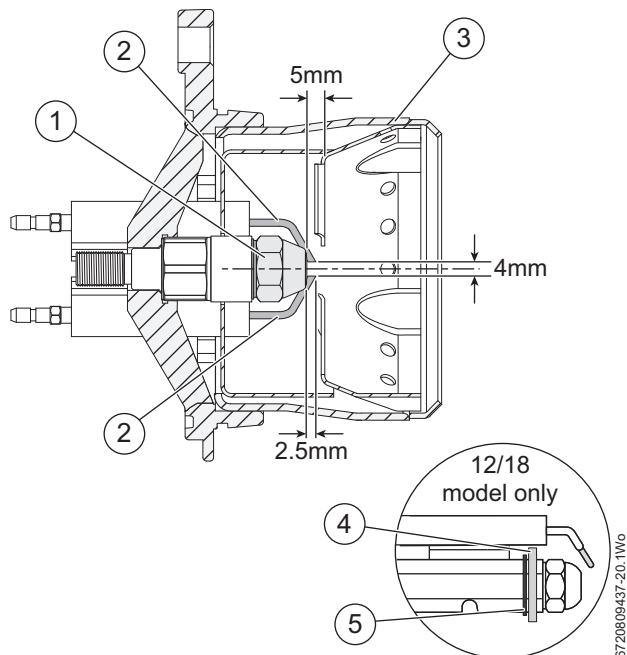

Fig. 65 Nozzle and electrode gaps
- ▶ After refitting check that the electrode gaps are correct, as shown in figure 65, page 36